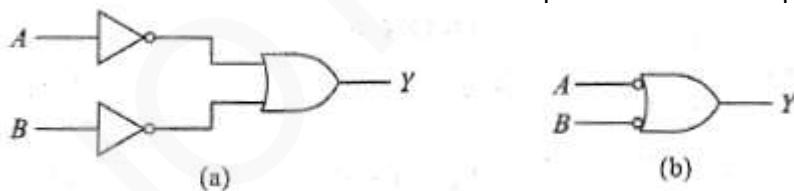

Figure 2.26: (a) OR gate with inverted inputs, (b) Equivalent symbol
- Bubbles on the inputs are a reminder of inversion that takes place before OR operation (Figure 2.26).